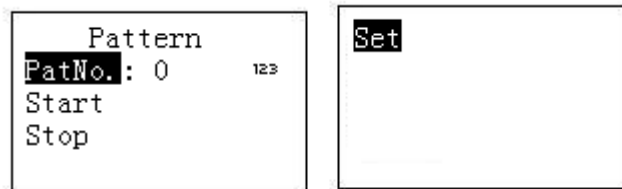

Figure 4-9
- a) On the keyboard click **【PATTERN】** , the interface is shown as below. See Figure 4-9.